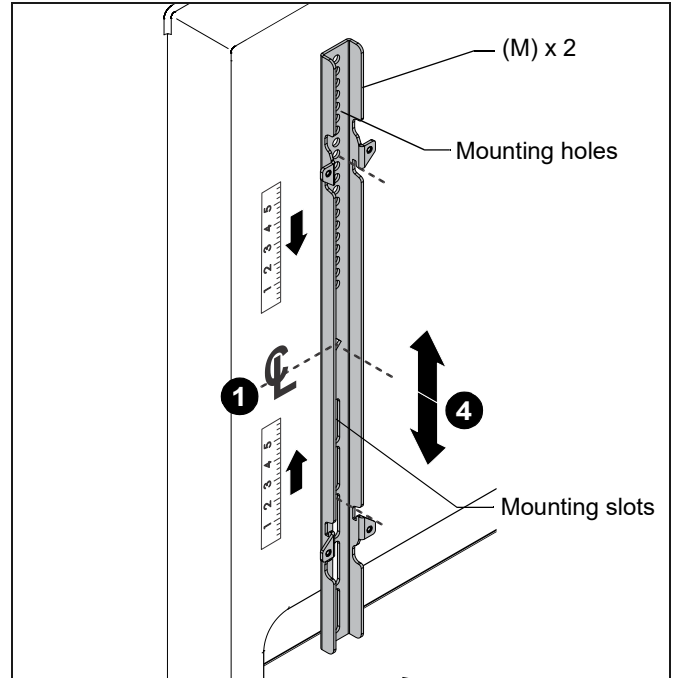

Figure 5
1. Determine and mark the vertical center position between the left-side upper and lower mounting holes in display. (See Figure 5)
2. Determine and mark the vertical center position between the right-side upper and lower mounting holes in display. (See Figure 5)
3. Orient vertical mounting bracket (M) so that mounting slots are on bottom and mounting holes are on top. (See Figure 5)
4. Align mounting holes in vertical mounting bracket (M) with upper and lower mounting holes in display.
5. Adjust vertical mounting bracket (M) position until mark made in Step 1 aligns with center mark in vertical mounting bracket (M).